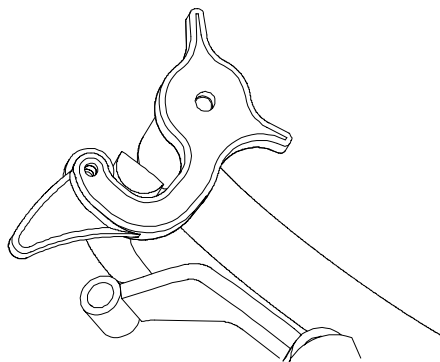

FIGURE 15
1. With rear of machine still on jack stands and engine running at full throttle, disengage the park brake and move the speed control lever to the midway position. Move the respective drive lever upward until it reaches the **neutral** position and engage neutral lock latches (See Figure 15). If the tire rotates in either direction, the length of the drive lever link will need to be adjusted.